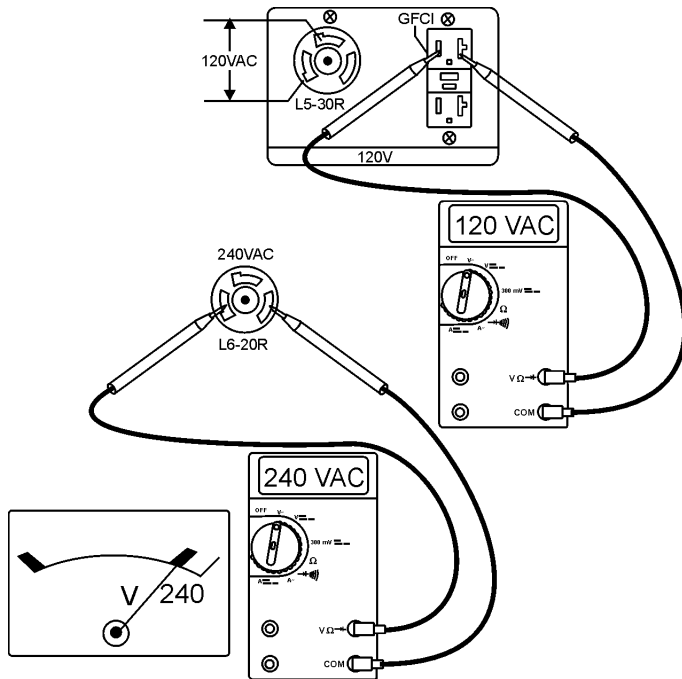

Figure 22. 60 Hz Output Receptacles
- Read the **voltmeter** on the front panel of the generators (Figure 22) and verify that 240 VAC is present at the 240V twist-lock receptacle. Using an external voltmeter verify that 120V is present at the 120V twist-lock and GFCI duplex receptacles.